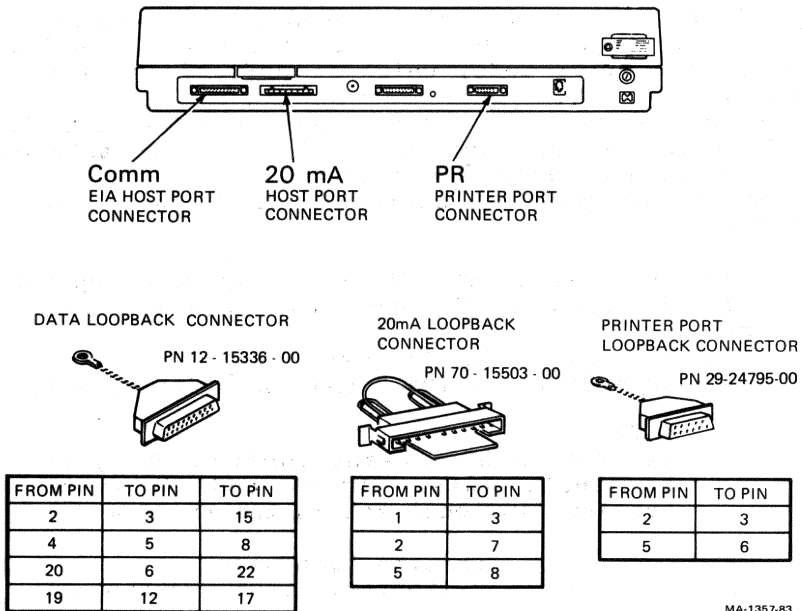

Figure 1-2 Rear Connector Panel of VT240
In the EIA port data lines loopback self-test, the terminal's transmit and receive lines are connected together with a data loopback connector. (See Figure 1-2.) The terminal transmits a predefined set of characters on its transmit line and receives them on its receive line. It then compares the output characters to the input characters and displays an error code at the LEDs and an error message on the screen if the characters do not match. (See Paragraph 1.10.)
2. Connect the data loopback connector (PN 12-15336-00) to the host port. (See Figure 1-2.)
In the printer port loopback self-test, the printer port transmit and receive lines are connected together using the printer port loopback connector. (See Figure 1-2.) The terminal transmits a predefined set of characters on its transmit line and receives them on its receive line. It then compares the input characters with the output characters and displays an error message on the screen and an error code at the LED indicators if they do not match. (See Paragraph 1.11.)
2. Connect the printer port loopback connector to the printer port. (See Figure 1-2.)
2. Install EIA loopback connector (PN 12-15336-00) to EIA host port. (See Figure 1-2.)
In the 20 mA port loopback self-test, the VT240's transmit and receive lines are connected together with a 20 mA data loopback connector. (See Figure 1-2.) The terminal transmits a predefined set of characters on its transmit line and receives them on its
2. Connect the 20 mA loopback connector (PN 70-15503-00) to 20 mA port. (See Figure 1-2.)
2. Connect the VT240 modem to the EIA host computer port. (See Figure 1-2.)